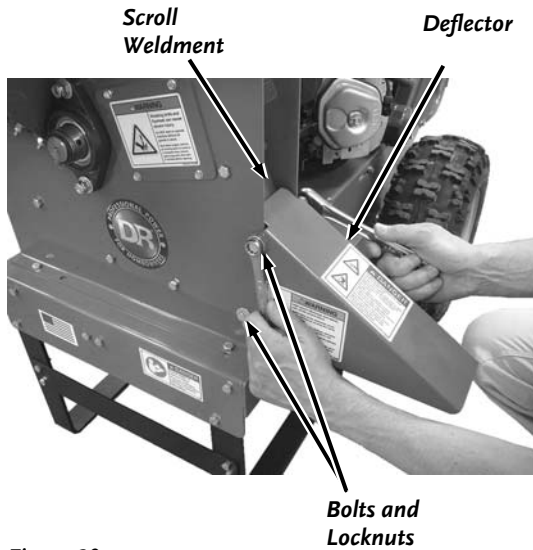

Figure 20
2. Remove the two Bolts, four Washers and two Locknuts that secure the Deflector to the Chipper Assembly with two 1/2" wrenches and then remove the Deflector (**Figure 20**).
1. Position the Deflector onto the Chipper Assembly and secure with two Bolts, four Washers (one on each side) and two Locknuts using two 1/2" wrenches (**Figure 20**).